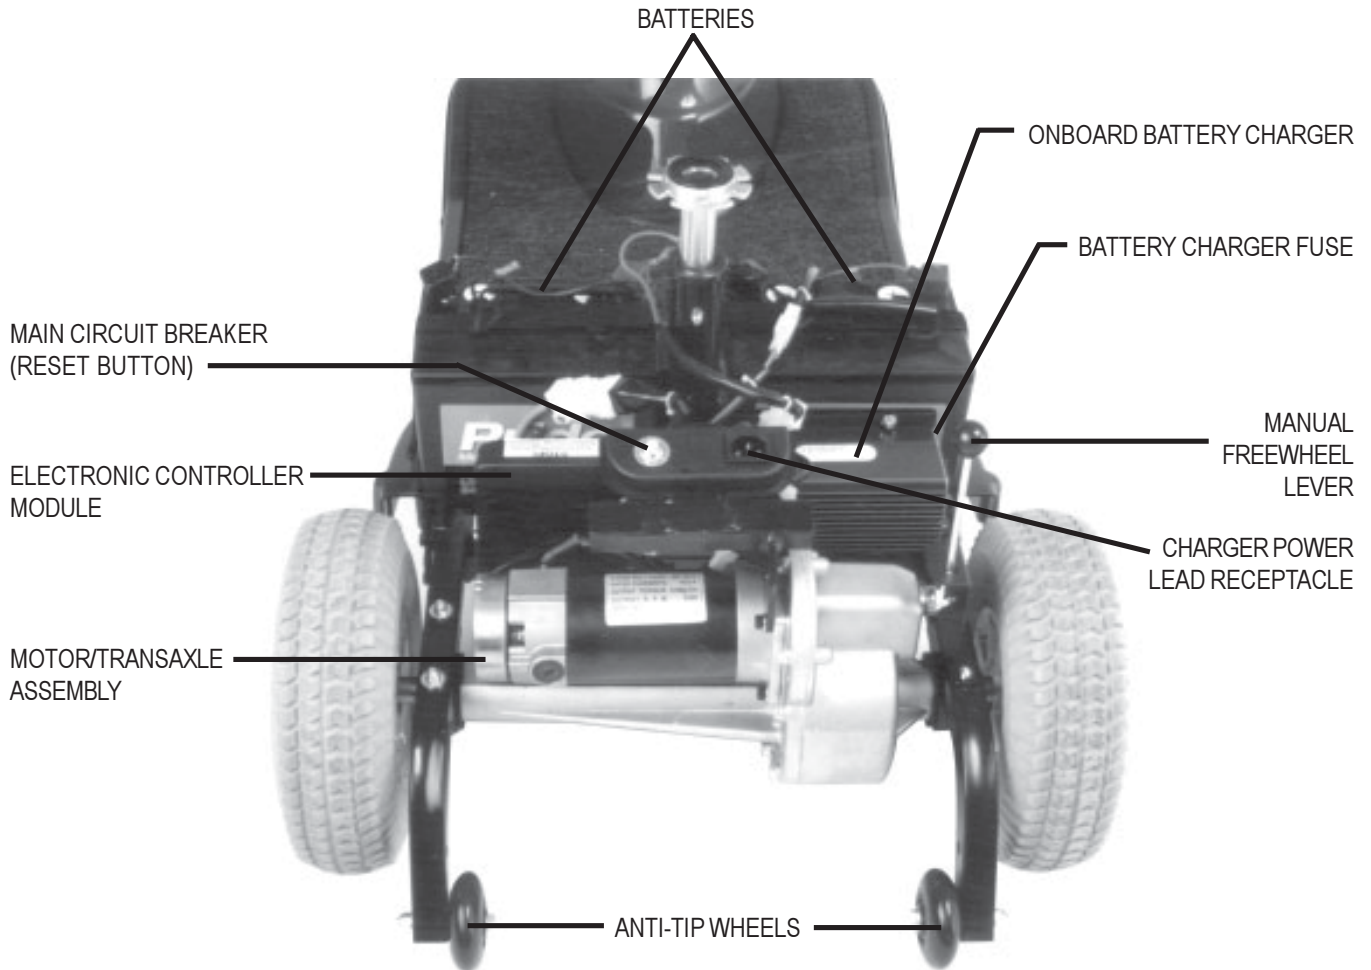

FIGURE 8. REAR SECTION
The onboard battery charger, the charger power lead receptacle, the battery charger fuse, the batteries, the electronic controller module, the main circuit breaker (reset button), the manual freewheel lever, and the motor/transaxle assembly are located on the rear section of your Victory. See figure 8.
- The charger power lead plugs into your Victory’s battery charger by means of a receptacle located on the rear section of your Victory, near the manual freewheel lever and the main circuit breaker reset button. See figure 8.
- The main circuit breaker is mounted on the rear section of the Victory. See figure 8.
- The manual freewheel lever is located on the end of the motor/transaxle assembly at the right rear of the Victory. See figure 8.
The motor/transaxle assembly consists of a geared transmission and differential. This one piece, direct drive, fully sealed assembly provides quiet operation with maximum power and long life. See figure 8.
The anti-tip wheels are an integral and important safety feature of your Victory. Do not, under any circumstances, remove the anti-tip wheels from your Victory. See figure 8.
Your Victory uses two long-lasting, 12-volt, deep-cycle batteries that are sealed and maintenance free. They are recharged by an onboard 2,5-amp charging system designed for ease of use and convenience. See figure 8.